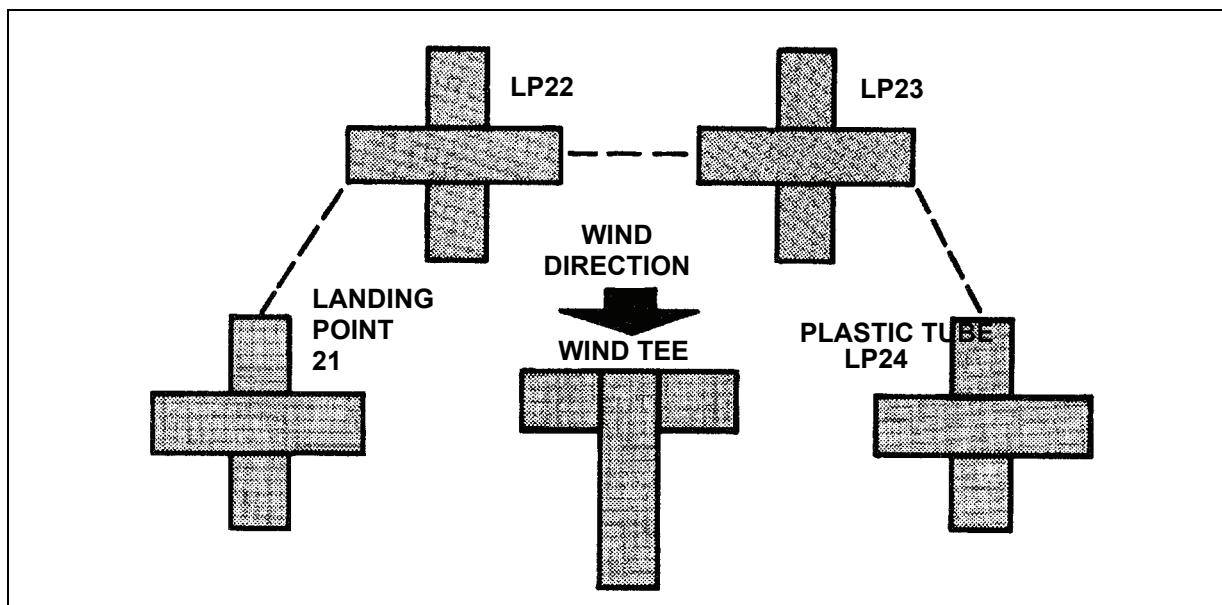

Figure 4-10. Daylight Landing Site Markings (USMC)
- **USMC Markings.** When using marker panels to identify landing sites, the panels must correspond to the color name of the landing site. If a wind sock is used, position it securely in the center of the landing site. Landing points are indicated by placing the corresponding colored marker panels in the form of a cross on the landing point (Figure 4-10). Smoke may also be used to identify landing points.